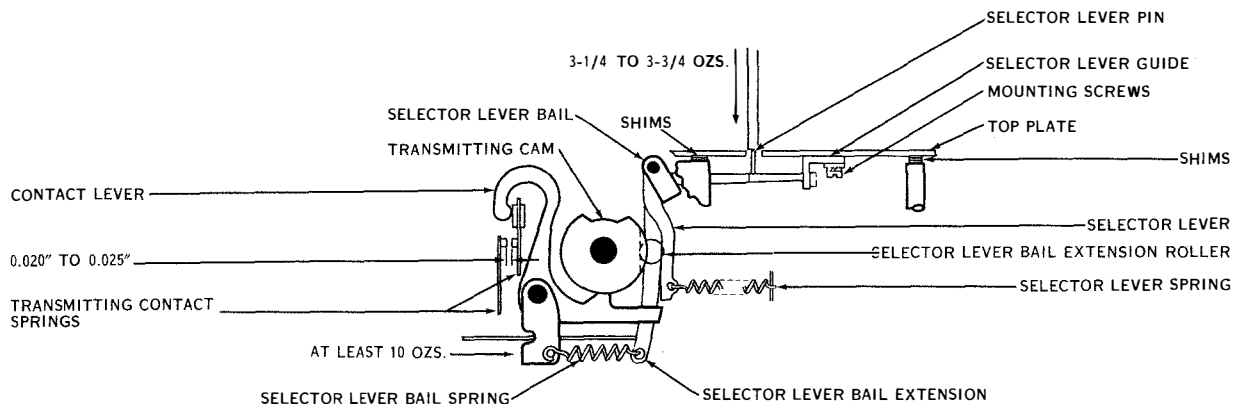

Figure 7-80. Transmitting Contact Gap and Selector Lever Spring Tension
(See figure 7-80.)
(29) SELECTOR LEVER SPRING TENSION. (See figure 7-80.)—When the selector lever pins are up as far as they will go, a tension of $3\frac{1}{4}$ to $3\frac{3}{4}$ ounces should be required to start the pins moving down. To check, place the push end of an eight-ounce scale on the pin and push downward.
(32) **SELECTOR LEVER GUIDE.** (See figure 7-80.)—When a piece of tape, perforated with the LETTERS combination and properly centered (having No. 1 and No. 5 code holes equidistant from the edges), is placed in the transmitter and the cam sleeve rotated until the selector lever pins are in their uppermost position, the pins should be approximately in line with the center line through each hole in the perforated tape. To adjust, loosen the mounting screws of the selector lever guide and position the guide. Tighten the mounting screws.